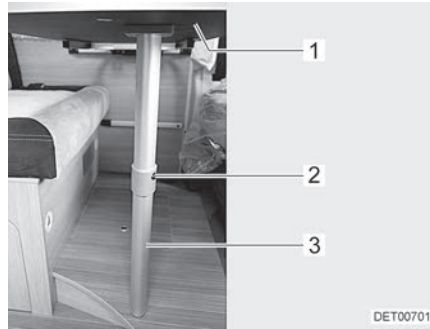

Fig. 49 Bed foundation
- Slightly raise the front of the table top (Fig. 49,1).
- Press the release knob (Fig. 49,2) and fold the lower part of the fold-out leg (Fig. 49,3) by 90°.